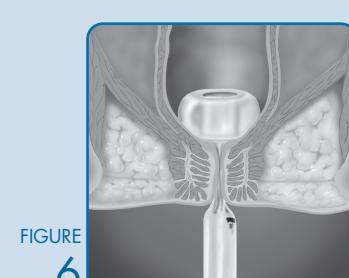

FIGURE 6
3. Remove the syringe from the inflation port, and gently pull on the soft catheter to check that the balloon is securely in the rectum and that it is positioned against the rectal floor. (Figure 6)